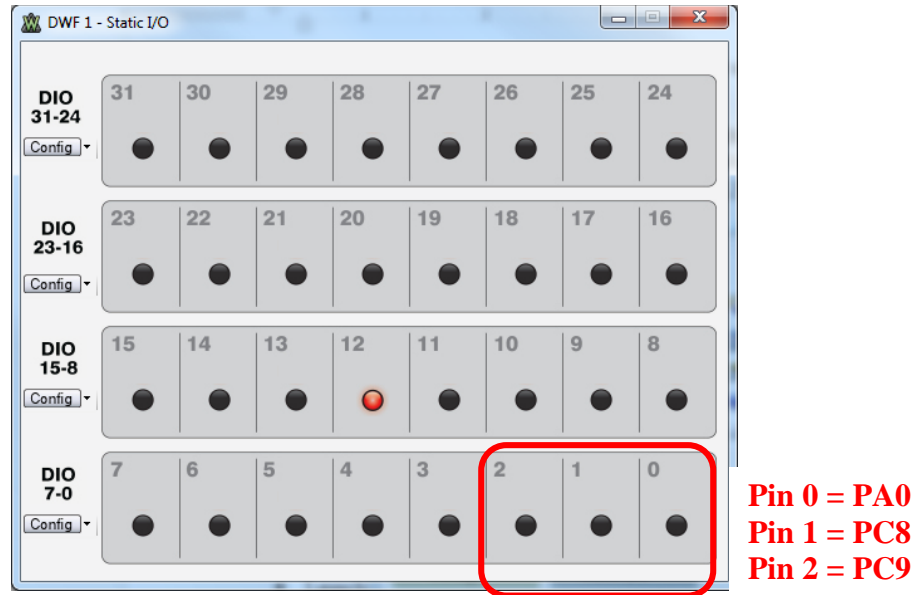

Figure 4. WaveForms Static I/O Instrument
- Launch the *Static I/O* instrument in *WaveForms* (Figure 4.)
- By right-clicking on each (see Figure 4), configure Digital I/O pins DIO0, DIO1 and DIO2 as LEDs. If you wish, you may remove DIO31-24, DIO23-16, and DIO15-8 from the Static I/O display via the "Config" buttons at the left.